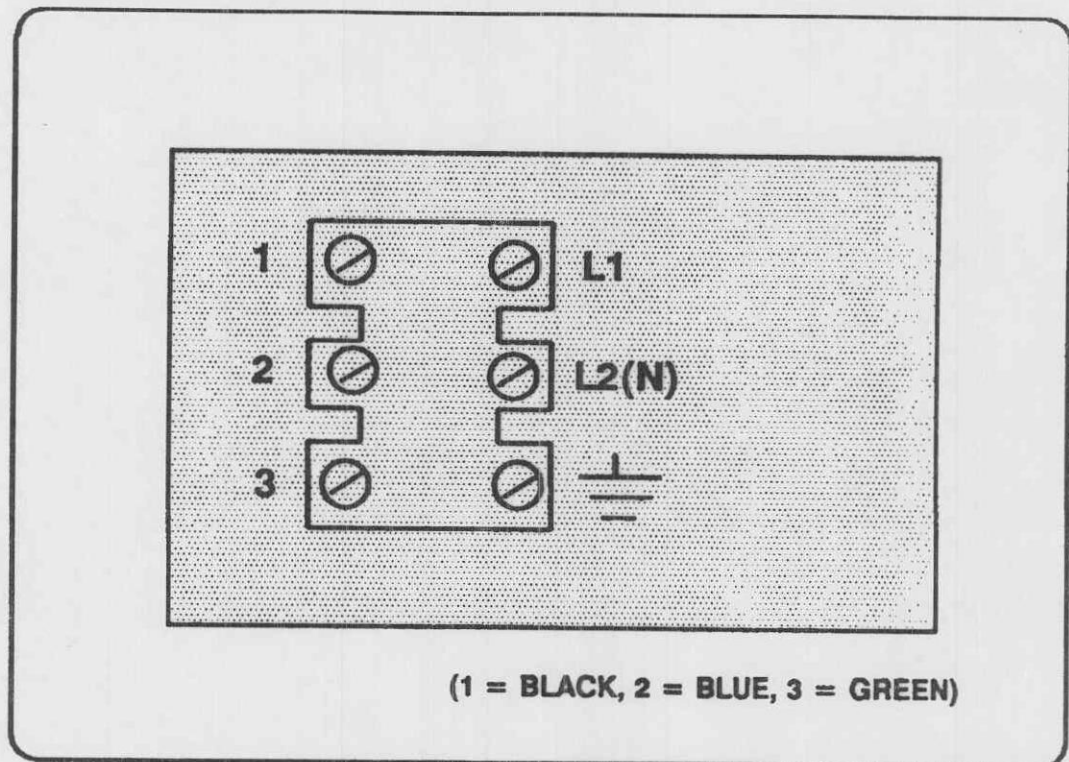

Figure 3-33. Terminal block.
- e. Loosen the screws in the terminal block (fig 3-33) and remove the electrical power cable.